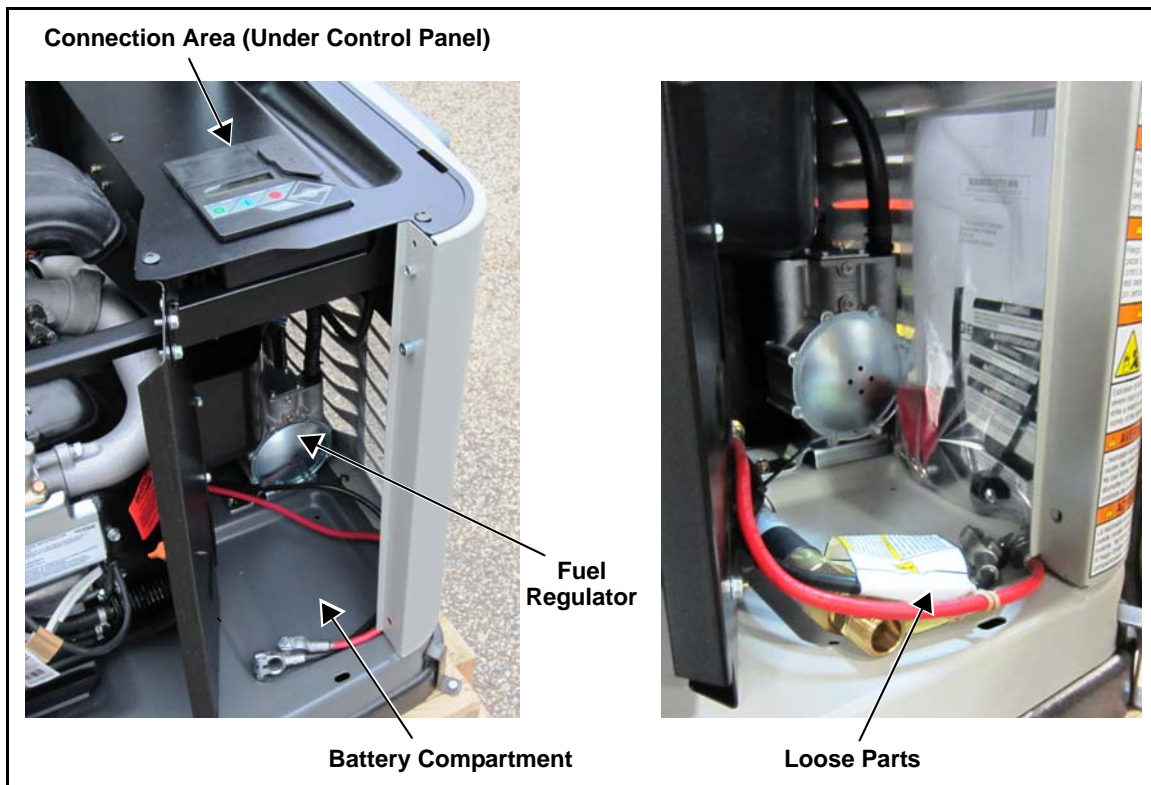

Figure 2-5. Customer Connection Area/Loose Parts Location
9. Figure 2-5 illustrates the following: